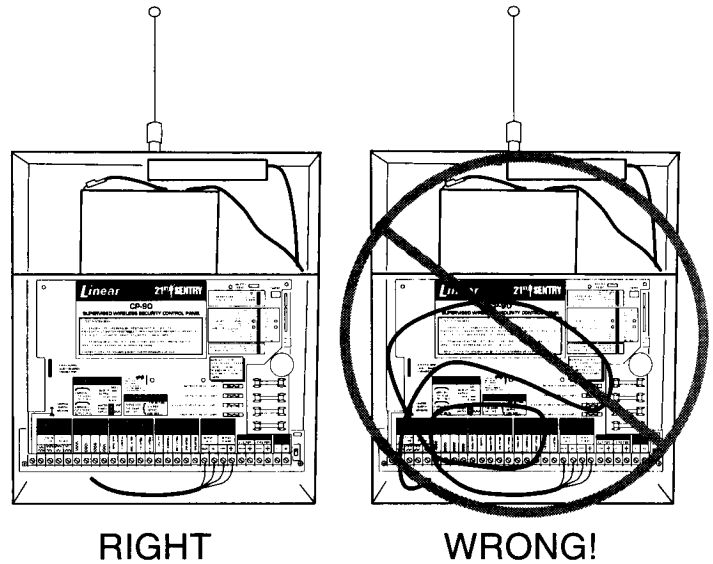

Figure 19. Proper Control Panel Wiring
- ✓ Do not coil excess keypad wire or any other wire inside the CP-90 cabinet (see Figure 19).